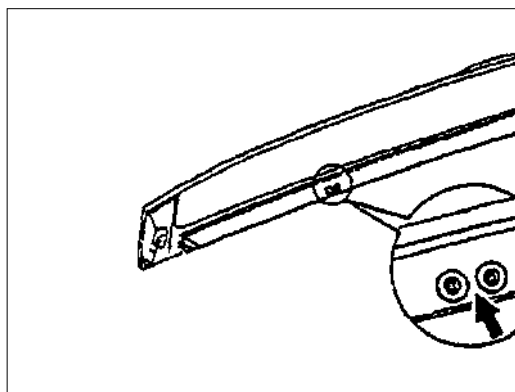

Figure 1
**1.1 Loose bolts or threaded inserts (Figure 1, arrow 1).**
**Note:** As of January 20, '97 the bolts were replaced with torx bolts, part number, 993 562 577 01. Only this bolt is valid for repairs. If the threaded inserts come loose (Figure 1, arrow 1), the wind deflector, part number, 993 562 904 00 and the bolts should be replaced.